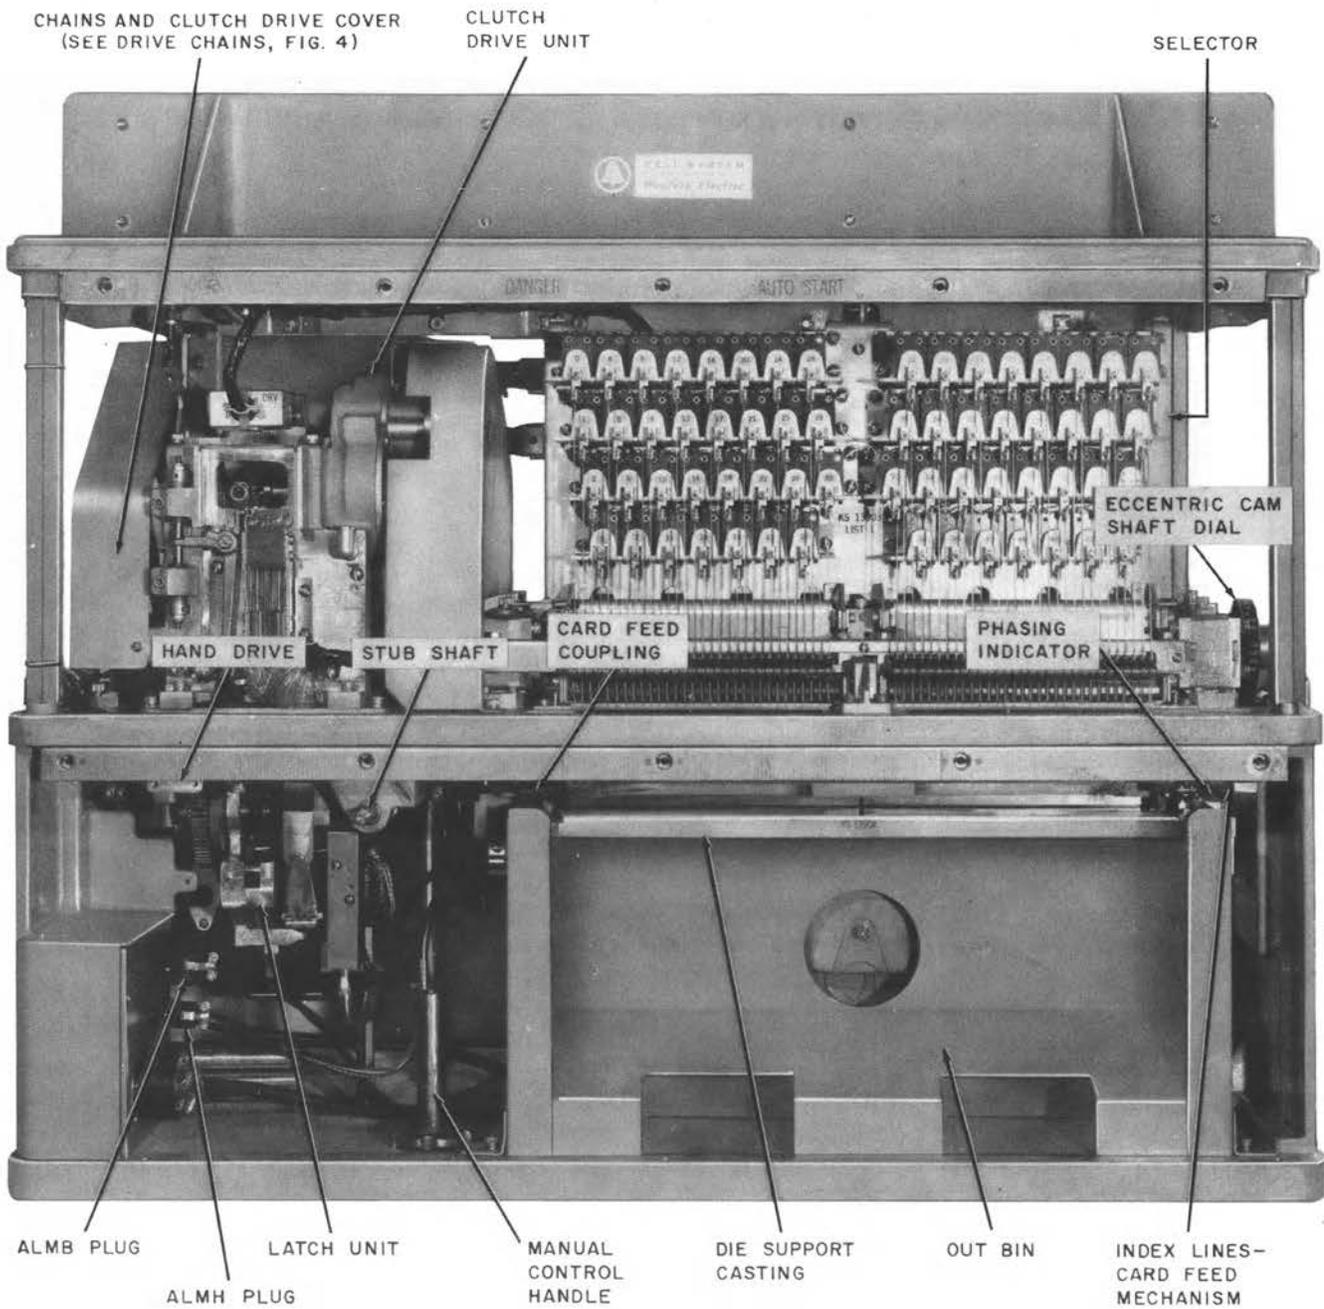

Fig. 1—KS-13834 L1 Perforator—Front View
**1.01** This section covers the KS-13834 L1 perforator (Fig. 1 and 2) used for recording troubles in